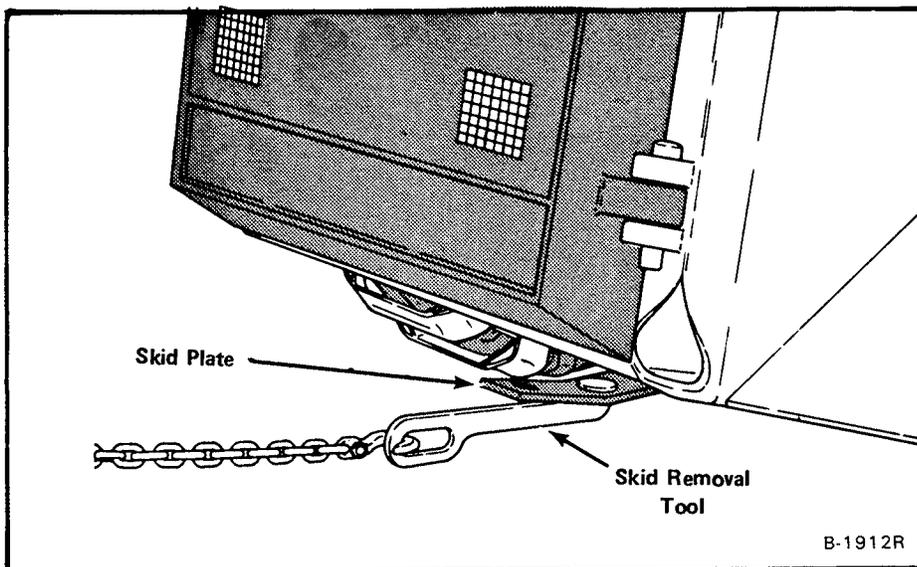

Fig. 1-13 Removing Skid Plate
(1) Remove bolt from the hole of retaining bar at the rear of the skid plate.
(2) Install the removal tool (fastened inside the rear grill) on the skid plate (Fig. 1-13).
(3) Fasten a chain to the tool and fasten other end to a tree or post.
(4) Slowly move the machine forward until the skid plate is fully open against the stop.